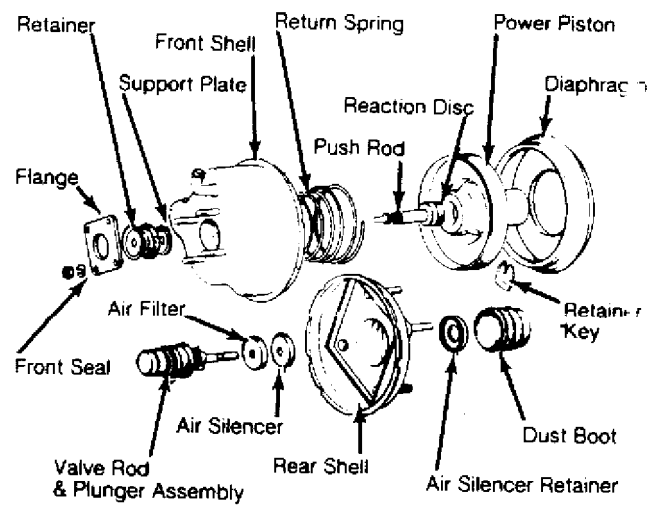

Fig. 7: Exploded View of Typical Power Brake Unit
- 2) From rear of cylinder bore, remove retaining ring, washer, primary piston assembly, and return spring. Remove stopper bolt and secondary piston by blowing compressed air through outlet port. See Fig. 7.